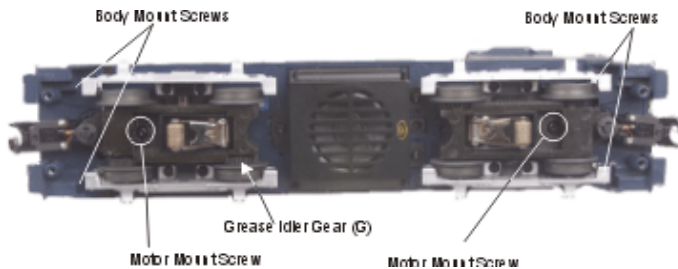

Figure 3: Body Removal Screw Locations (Turn truck blocks to access body mount screws)
1. To access the gear box, remove the cab from the chassis by unscrewing the chassis screws indicated in Figure 3 and lifting the cab from the chassis.
2. Once the cab is removed, remove the trucks by unscrewing the black Phillips motor mount screw located on the underside of the drive trucks (see Fig. 3).